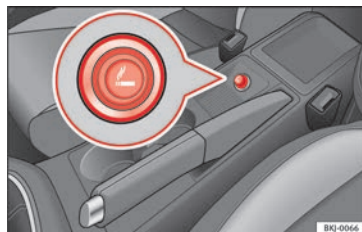

Fig. 138 Lighter.
- Press on the cigarette lighter » **Fig. 138** to activate it » **⚠**.